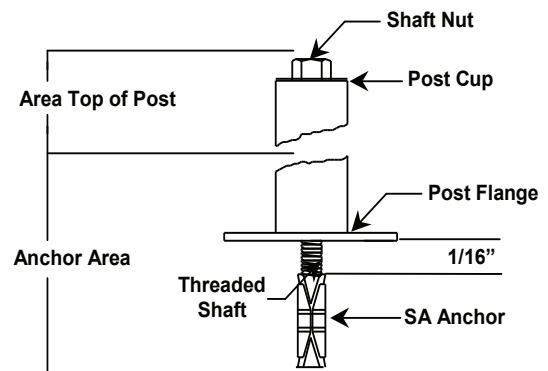

FIGURE 2 – Detail View of Anchor Area & Top of Post
4. Insert the **Threaded Shaft** through the **Post Cup** so that the cup curves upwards, and through the **Post** so that the shaft nut is on top and the threads protrude through the bottom of the **Post Flange**. While holding the **Shaft Nut**, screw the 1" diameter SA Anchor onto the bottom of the **Threaded Shaft** (making sure that the threaded portion of the anchor is pointed down) until the top of the anchor is approximately 1/16" from the bottom of the **Post Flange** (See **FIGURE 2**).